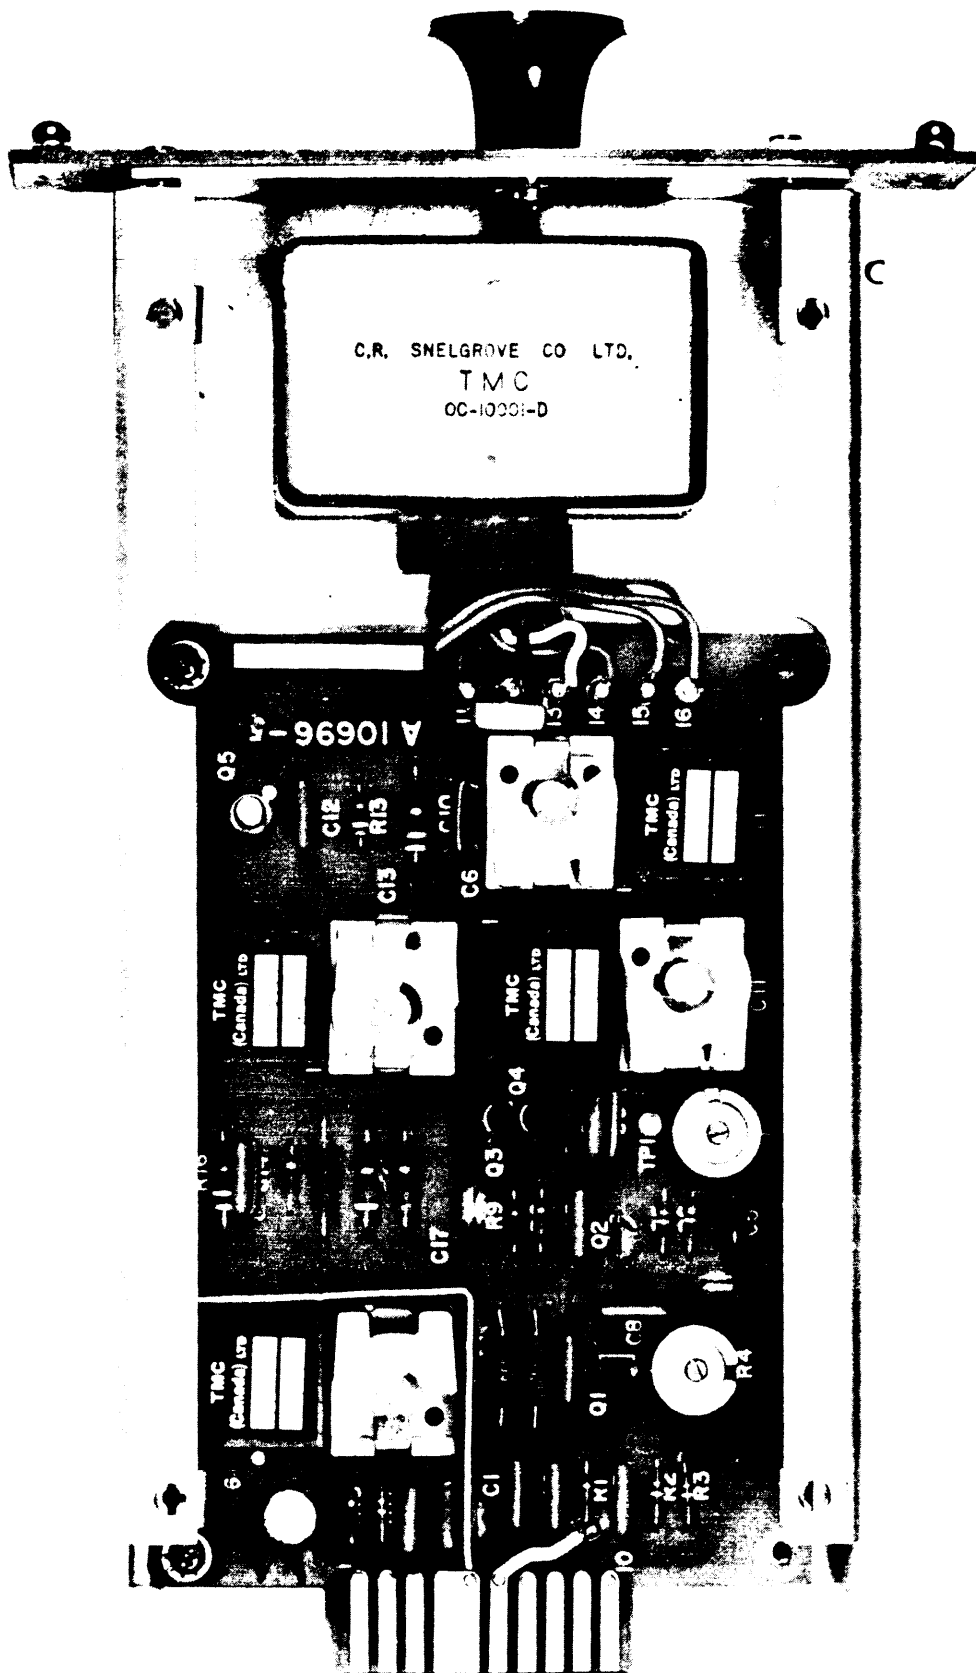

FIGURE 5-1. RIGHT SIDE, COVER REMOVED, TTRT - () E
(1) Periodically remove the TTRT module from its associated exciter and inspect for general cleanliness. Check the condition of the double-sided etched connector at the rear of the unit. Remove the one side cover and look for any evidence of discoloured components, damaged wiring and broken or loose solder connections. Clean the components with a soft brush, vacuum cleaner, or dry, filtered, compressed air. Check all hardware for tightness.
(2) Refer to figure 5-1 for aid in locating components of the TTRT ()E which are referred to in the maintenance procedures.
(3) All test equipment required for troubleshooting and alignment is listed in table 5-1.